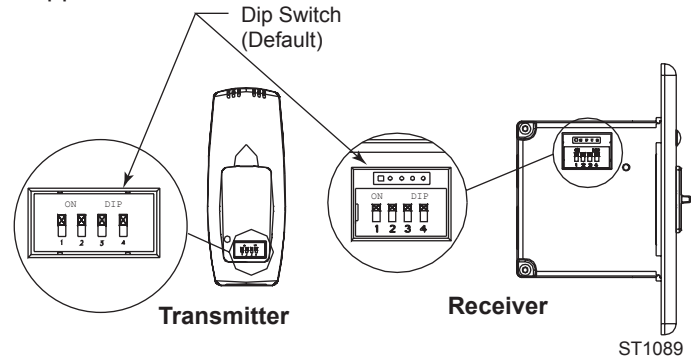

Fig. 59 The switches on the transmitter and receiver must match.
1. Slide the code switches on the transmitter and receiver to choice of ON or OFF position. Switches #1, #2, #3 and #4 are preset to "ON" for both the transmitter and receiver. (Fig. 59)